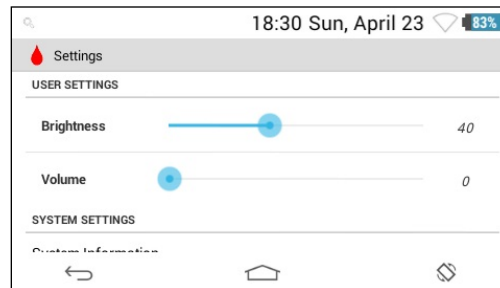

Figure 21 – Sliders for adjusting brightness and beep volume
- 2 Drag the **Brightness** slider horizontally. See Figure 21.
- 4 Drag the **Volume** slider horizontally. See Figure 21.